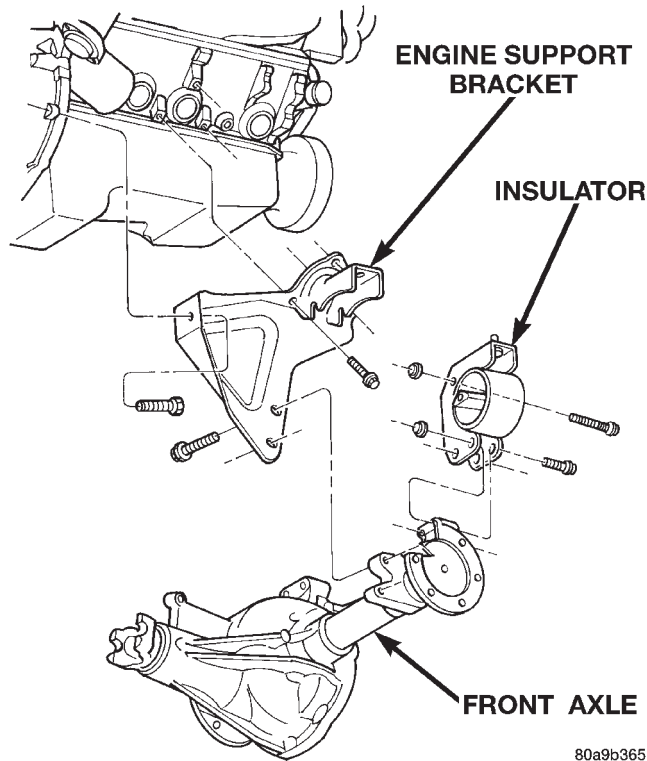
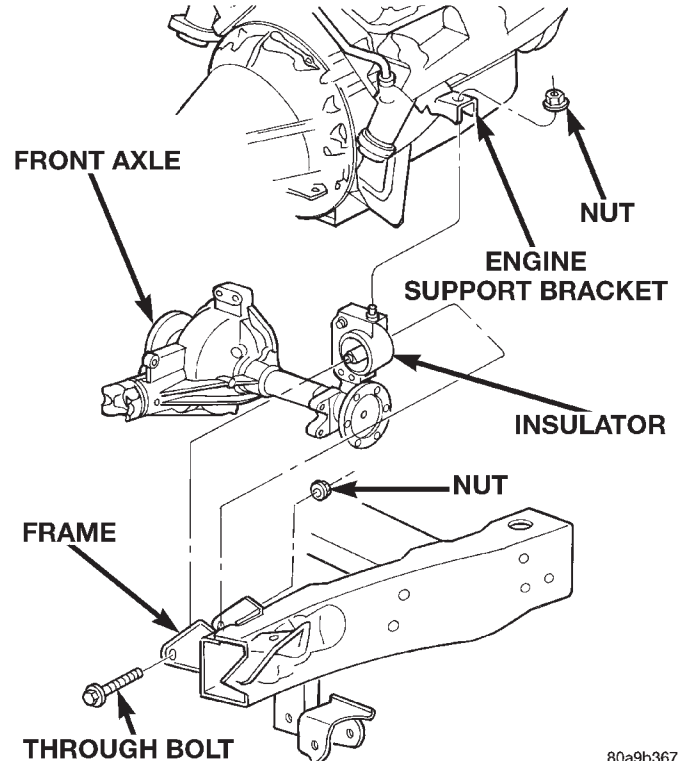
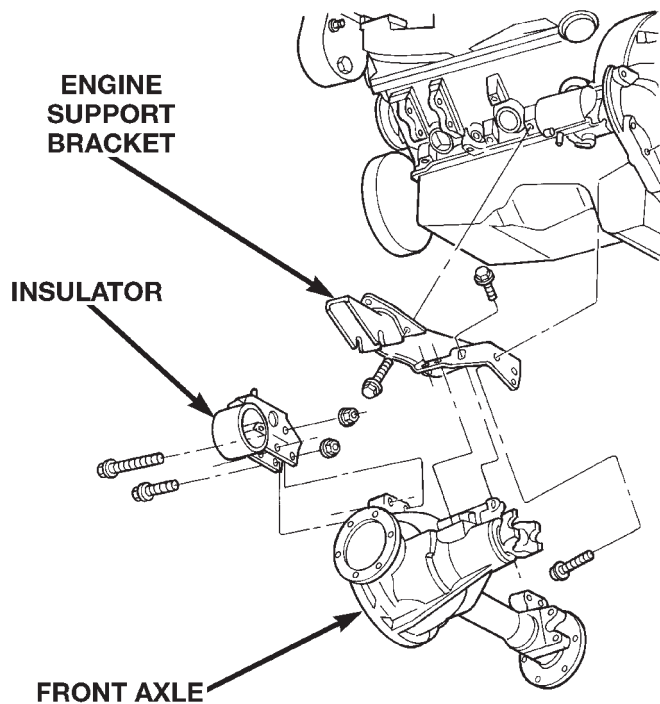

Fig. 13 Right Engine Mount Insulator and Support Bracket—4WD Vehicles
Fig. 15 Engine Mount Insulator at Frame—4WD Vehicles
Fig. 14 Left Engine Mount Insulator and Support Bracket—4WD Vehicles
The engine front support brackets attach directly to engine block and the axle housing. The brackets provide a solid interconnection for these units (Fig. 13) (Fig. 14). Engine and front axle must be supported during any service procedures involving the front support assemblies.
- (1) Disconnect the negative cable from the battery.
- (2) Raise vehicle on hoist.
- (3) Install engine lifting (support) fixture.
- (4) Remove front axle. (Refer to Group 3, Differential and Driveline for the correct procedure.)
- (5) **Left mount insulator only.** Remove starter wires and starter motor assembly.
- (6) Remove insulator to frame through bolt (Fig. 15).
- (7) Raise engine slightly.
- (8) Remove upper insulator to support bracket stud nut and insulator to support through bolt.
- (9) Remove engine mount insulator. (Fig. 13) (Fig. 14).
- (10) If engine support bracket is to be removed/replaced, remove support bracket to transmission bell housing bolt(s) and three (3) support bracket to engine block bolts. Remove support bracket (Fig. 13) (Fig. 14).
(1) If engine support brackets were removed, install them and their fasteners (Fig. 13) (Fig. 14). Tighten support bracket to block bolts to 41 N·m (30 ft. lbs.). Tighten support bracket to transmission bellhousing bolt(s) to 88 N·m (65 ft. lbs.)
(2) Install Engine mount insulator and tighten insulator to support bracket nut to 41 N·m (30 ft. lbs.). Tighten insulator to support bracket through bolt nut to 102 N·m (75 ft. lbs.)
(3) Lower engine and install insulator to frame through bolt and nut (Fig. 15). Tighten nut to 95 N·m (70 ft. lbs.)
(4) Install starter motor and mounting bolts. Tighten bolts to 68 N·m (50 ft. lbs.)
(5) Connect starter wires.
(6) Remove engine lifting (support) fixture.
(7) Install front axle assembly. (Refer to Group 3, Differential and Driveline)
(8) Lower the vehicle.
(9) Connect the battery negative cable.